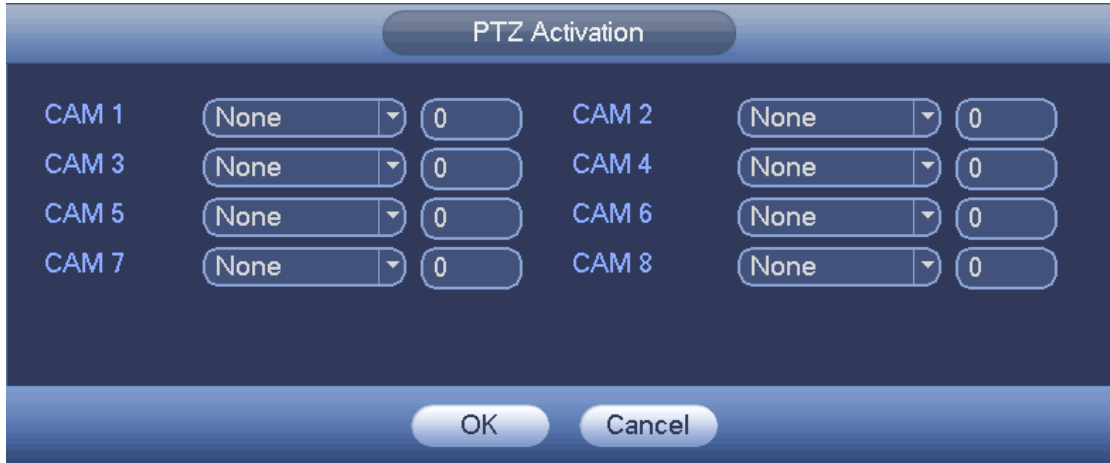

Figure 4-149
- PTZ activation: Here you can set PTZ movement when an alarm occurs. Such as go to preset, tour & pattern when there is an alarm. Click “select” button, you can see an interface is shown as in Figure 4-149.